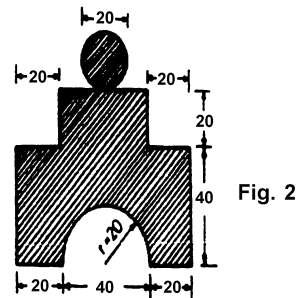

Fig. 2
- (b) Determine the centroid of the built up section in Fig. 2 and find the moment of inertia and radius of gyration about the horizontal centroidal axis.